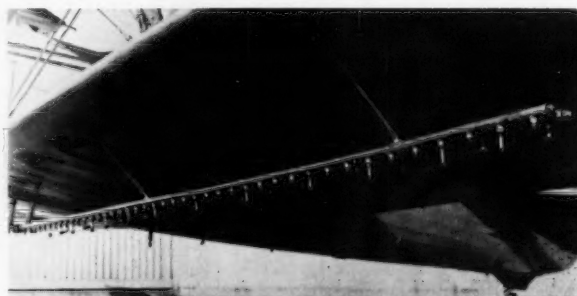

Fig. 1 Dual sprayer nozzle arrangement used for comparison of medium and fine atomization
For all tests the nozzles were spaced along full-span booms so that 60 percent of them were in the outboard one-half of the boom and the remainder in the inboard one-half as shown in Fig. 1. Atomization was determined by the photographic method described by Davis (1). The equip-